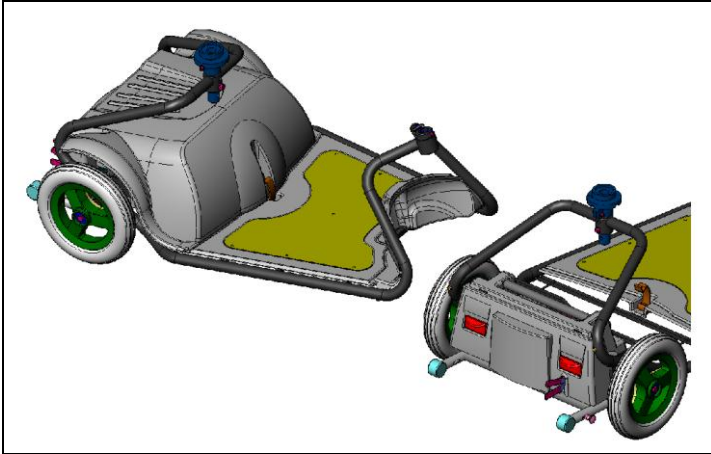

Figure 9
2.4 **Installation of Batteries Cover (See Fig. 9)**
(See **Figure 9**)